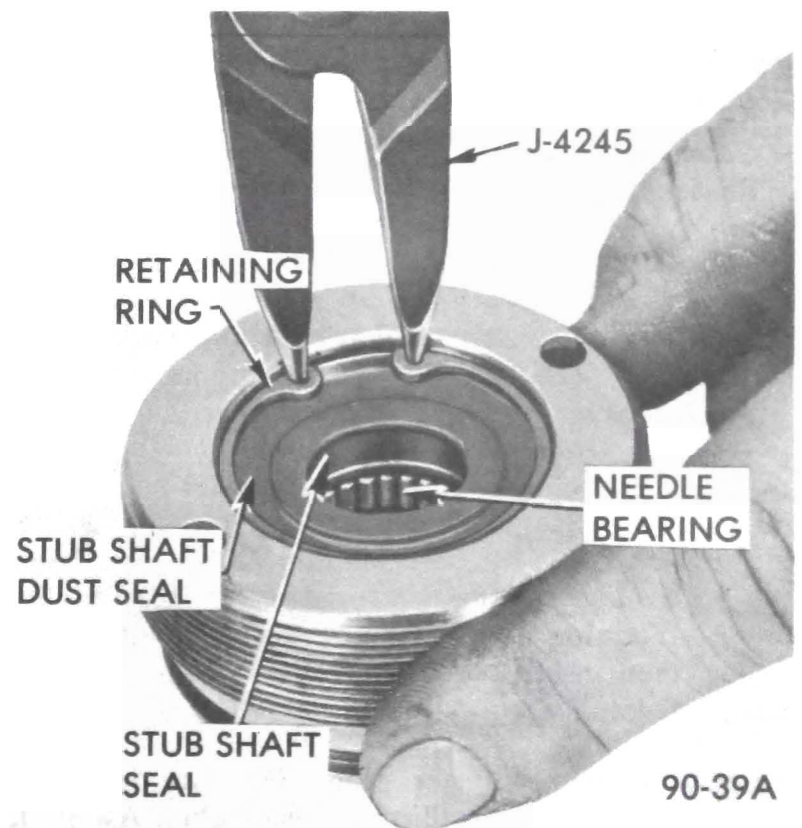

Figure 90-40 Removing Stub Shaft Seal Retaining Ring
3. Remove stub shaft seal retaining ring using No. 3 truarc pliers J-4245 and remove and discard dust seal. See Figure 90-40.